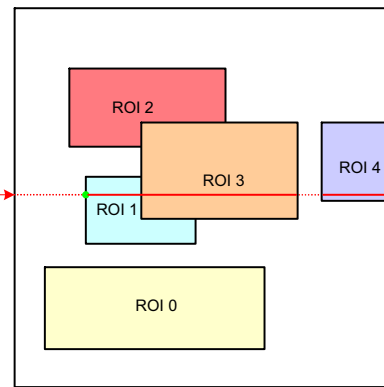

Figure 27. Scanning the Image Array with Five Windows
Figure 27 illustrates a practical example of a configuration with five windows. The current position of the
- The read pointer is not necessarily incremented by one, but depending on the configuration, it can jump in y-direction. In Figure 27, this is the case when reaching the end of ROI0 where the read pointer jumps to the y-start position of ROI1